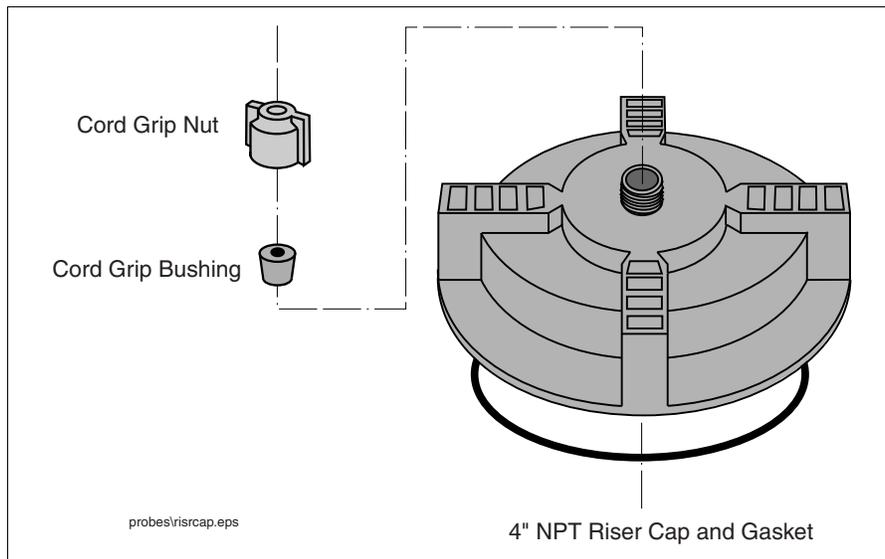
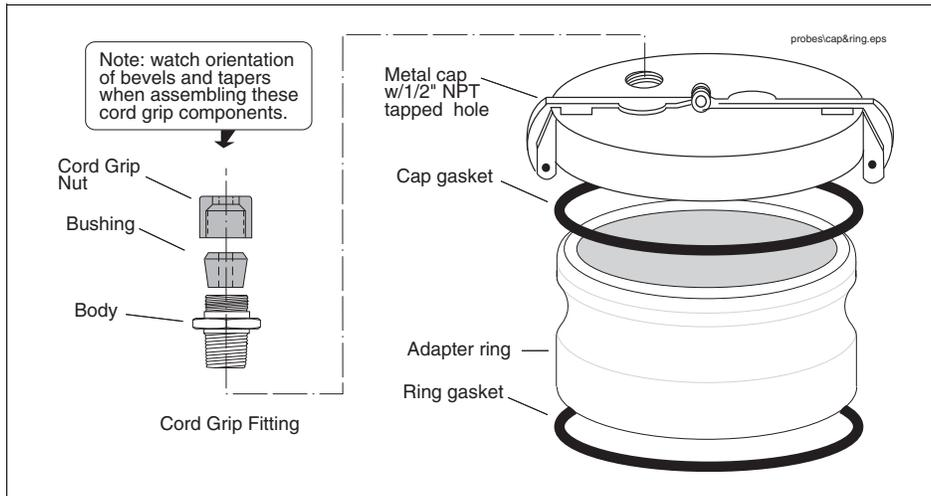
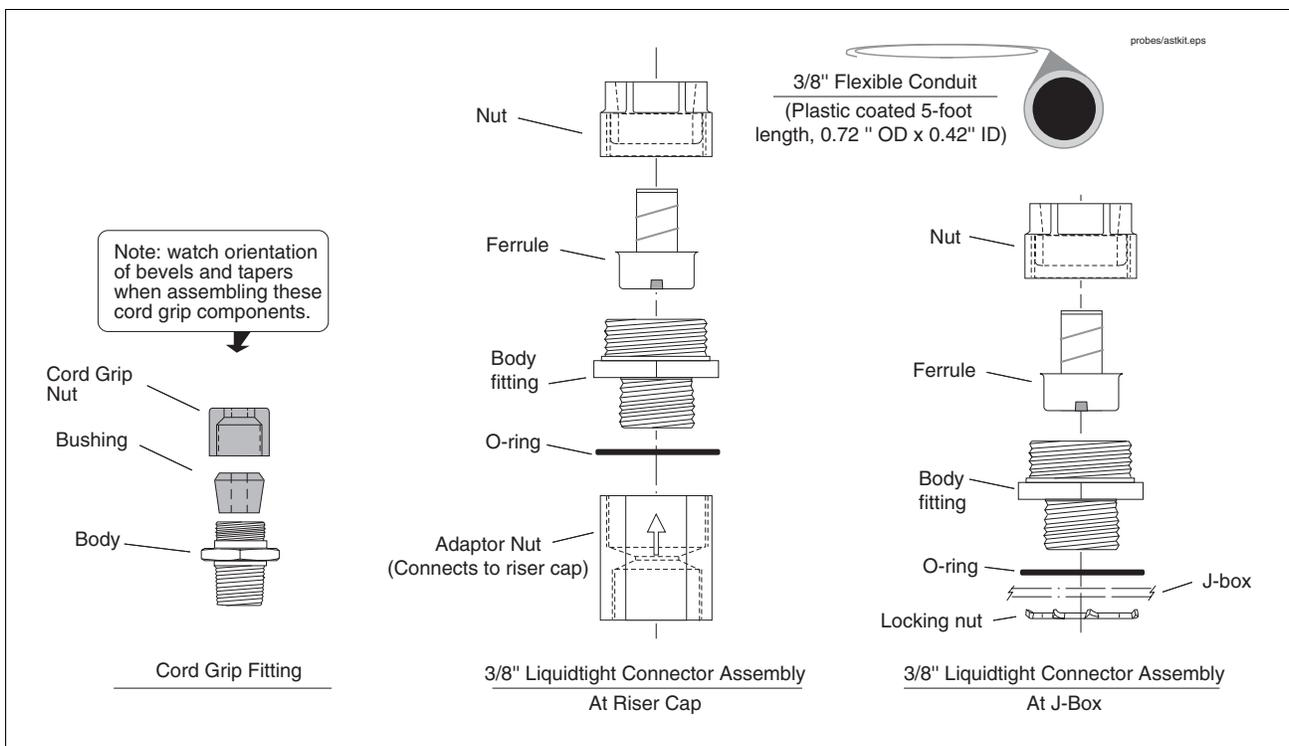

Figure 3. Cap and Cord Grip Kit
Figure 4. Metal Cap and Ring Kit
Figure 6. Mag Probe AST Installation Kit
This Riser Cap kit (Table 3) contains a non-metallic cap which screws onto the 4" NPT riser (Figure 3). The cap comes drilled and tapped with a cord grip.
This riser cap kit contains an adapter ring which screws onto the 4"NPT riser and a quick-release metal cap which clamps onto the ring (Table 4). The cap comes drilled and tapped with a cord grip (Figure 4).
This kit is recommended when installing Mag Probes into an above ground storage tank (AST). This kit contains a length of flexible conduit, connectors, etc., for easier probe access. The kit contents are listed in Table 5 and shown in Figure 6.
1. If you are using the one piece cap (see Figure 3 on page 7), push the end of the probe cable through the cord grip bushing and nut on the cap, leaving a minimal amount of slack between the probe and cap. Screw the cap onto the riser by hand until the gasket first contacts the pipe. Then lightly tap the cap with a hammer to tighten it an additional 3/4 turn. Go to Step 3.
2. If you are installing the metal cap and adapter ring (see Figure 4 on page 8), screw the ring onto the 4" riser until the gasket contacts the pipe, then use a pipe wrench to tighten it an additional 3/4 turn. Push the cable through the metal cap and cord grip, then clamp the cap onto the ring.
1. If you are using the one piece cap (see Figure 3), push the end of the probe cable through the cap and cord grip bushing, leaving a minimal amount of slack between the probe and cap. Discard the cord grip nut and attach the Adaptor Nut from the AST kit to the cap (see Figure 6). Tighten the Adaptor Nut until the cable is held firmly. Go to Step 3.
2. If you are installing the metal cap and ring (see Figure 4), screw the ring onto the 4" riser until the gasket contacts the pipe, then use a pipe wrench to tighten it an additional 3/4 turn. Using UL-classified pipe sealant (suitable for the fuels involved), screw the cord grip fitting into the tapped hole and tighten. Place the cord grip bushing in the fitting. Discard the cord grip nut and loosely screw the Adaptor Nut from the AST kit onto the cord grip fitting (see Figure 6). Push the cable through the metal cap, bushing, and Adaptor nut, then clamp the cap onto the ring. Make sure there is a minimal amount of slack between the probe and cap, then tighten the Adaptor Nut until the cable is held firmly.
3. Next assemble the liquid tight connectors on both ends of the flexible conduit as shown in Figure 6. Push the cable through the flexible conduit assembly and into the J-box. Connect the flexible conduit assembly to the Adaptor Nut on one end and the J-box on the other.